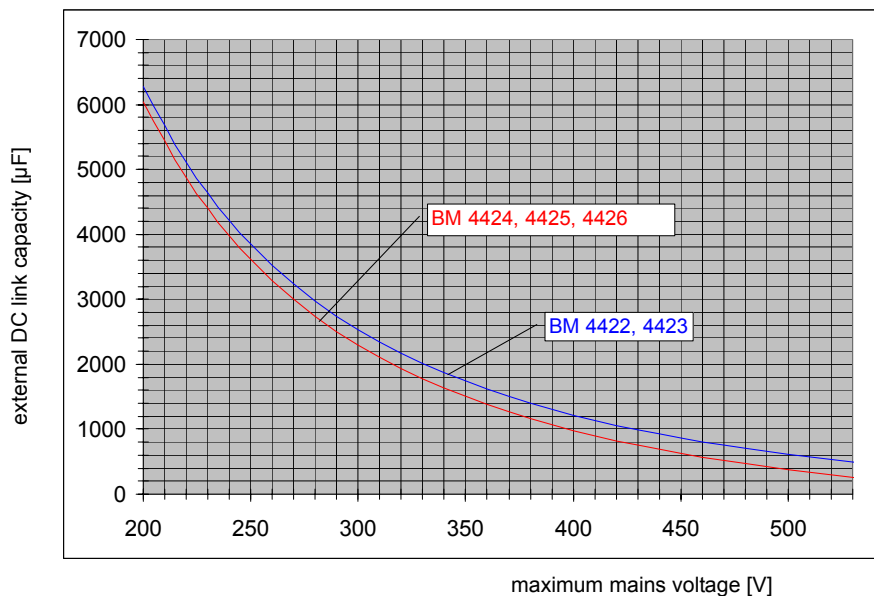

Figure 63: Maximum external DC link capacity BM442X
| DC link capacity (external), permitted                                              | see <a href="#">Figure 63</a> on page 174 |                   |                   |
| DC link capacity (external), permitted                                   |                        | see <a href="#">►Figure 63◄</a> on page 174 |                                |
- 9) The specified value is only valid, if there is no additional DC link capacity connected to the DC link terminals. Also see ►Mains-switch-on frequency/DC-link charging◄ on page 97 and ►Figure 63◄ on page 174.